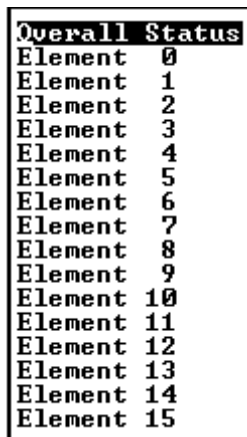

Figure 3-9: Device
- **Device:** - This option shows the user the status of the individual drives inside the JBOD enclosure. If selected the menu in *Figure 3-9* will appear.